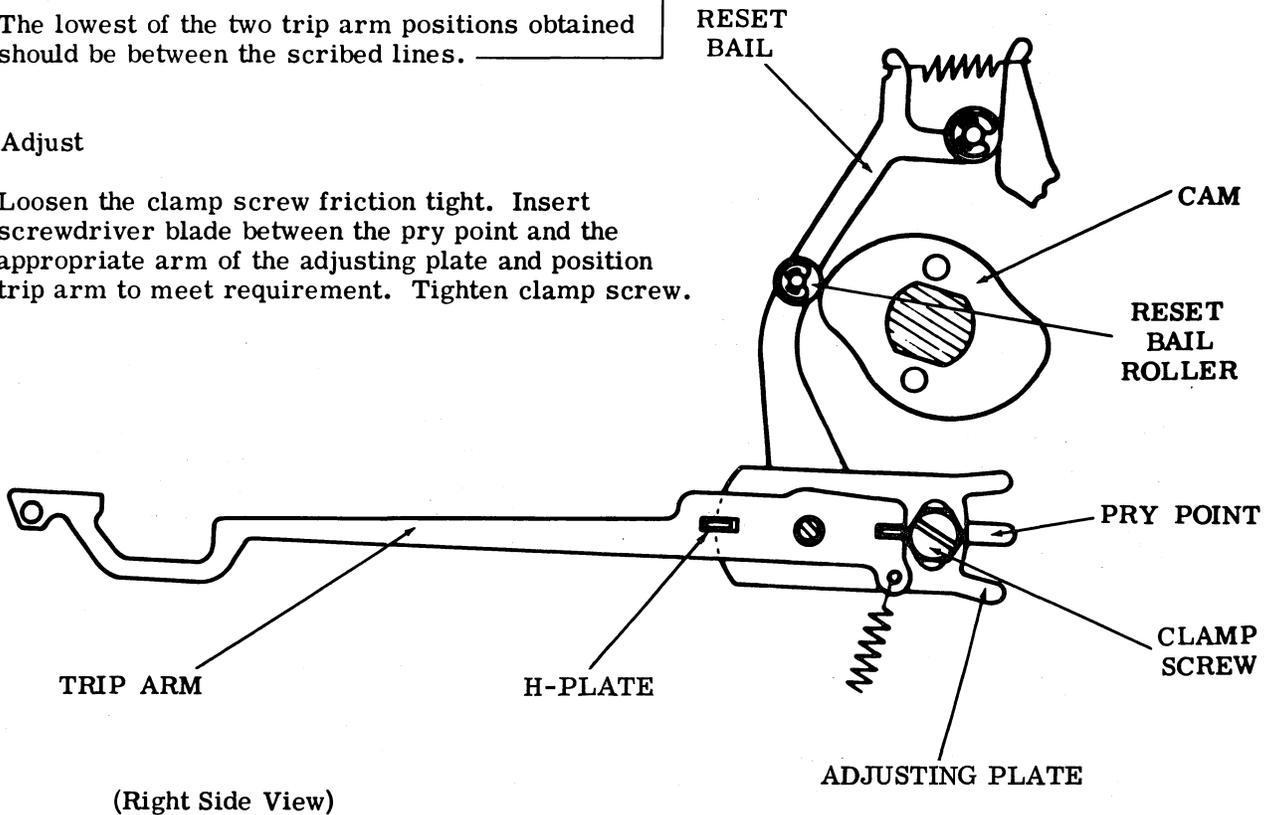

Figure 5 - Keyboard Trip Arm Adjustment
(6) Adjust keyboard trip arm following the procedures given in Figure 5.
(7) Remove the two screws and lockwashers holding the intermediate gear guard to the typing unit base and remove the guard. Loosen the five motor mounting screws and move the motor away from engagement with the intermediate gear assembly.
(8) Using the pry points at the rear of the intermediate gear assembly, adjust the intermediate gear assembly from front to rear until there is a barely perceptible backlash between the main shaft driven gear and the intermediate drive gear. This backlash